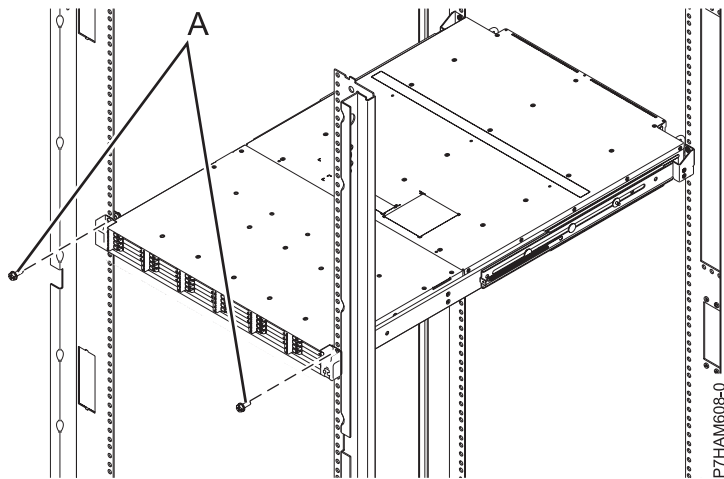

Figure 11. Securing the front of the enclosure to the rack
- e. Secure the front of the enclosure to the rack flanges by applying the securing screws (A) through the top open holes in each bracket and into the top EIA holes, as shown in Figure 11.